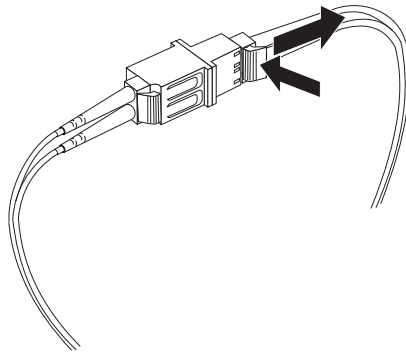

Figure 28. Removing the LC-LC Fibre Channel cable from an LC-SC Fibre Channel cable adapter
2. Carefully pull on the connector to remove it. Make sure you grasp the connector and not the cable when removing the LC-LC cable from the LC-SC cable adapter as shown in Figure 28.